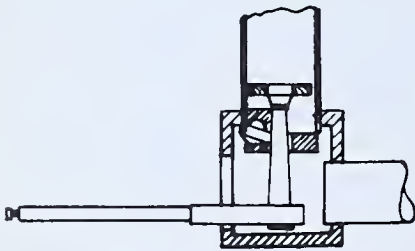

FIG. 523 — *Expanding Tubes
9. Expand tubes R-1 and R-2 in a similar manner, but with expander inserted in a horizontal position as shown in Fig. 523.